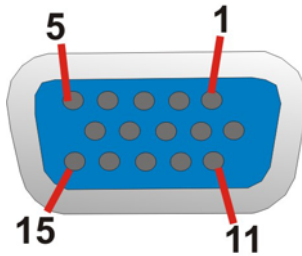

Figure 3-26: VGA Connector
- CN Pinouts:** See **Figure 3-26** an **Table 3-27**